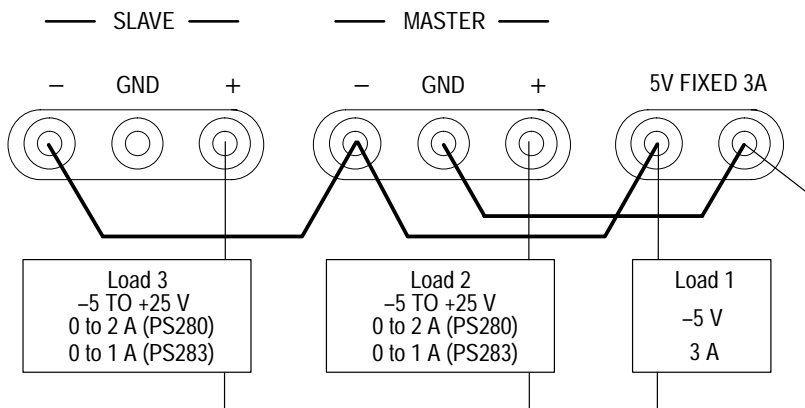

Figure 5: Independent Common Ground-Referenced Application
Figure 5 shows an example of a circuit with the FIXED 5 V terminal referenced to ground and both the master and slave variable power supplies referenced to –5 V.
2. Connect the outputs as shown in Figure 5.